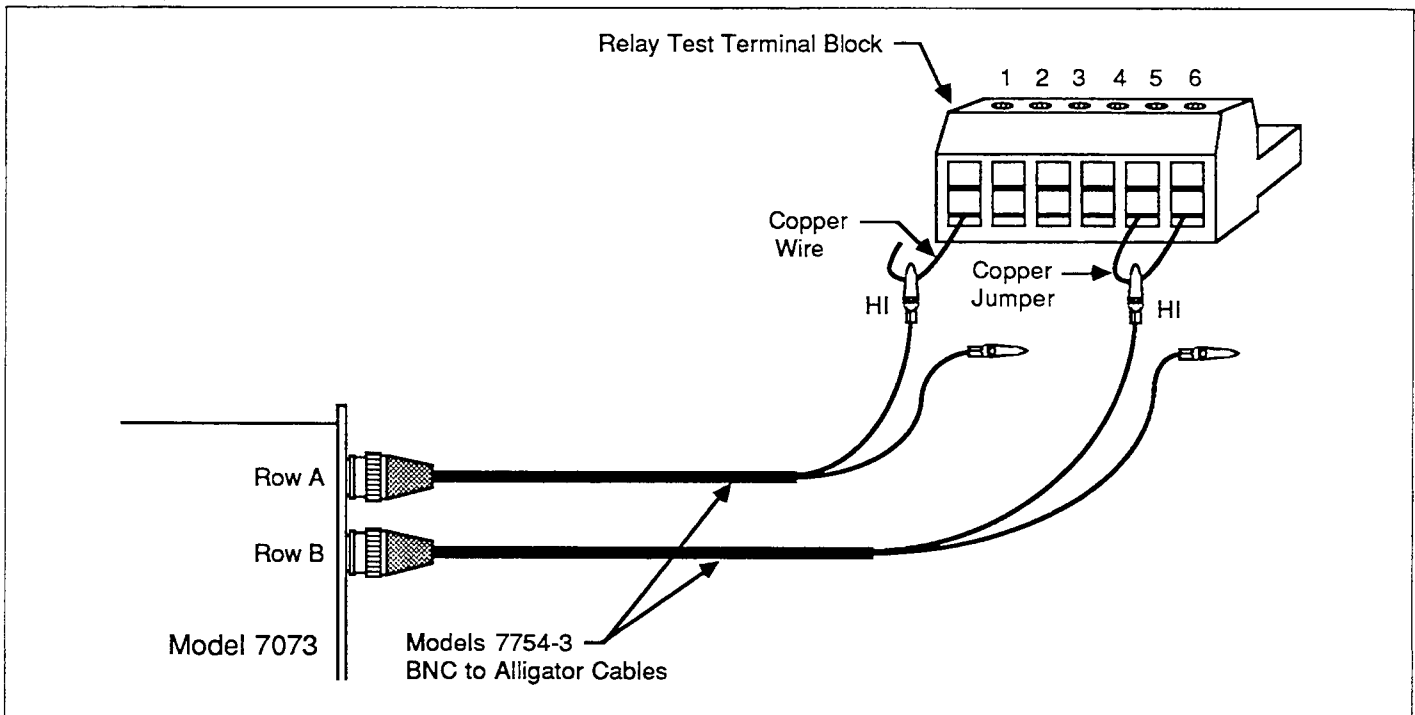

Figure 4-1. Relay Test Setup
2. Connect the relay test terminal block to rows A and B of any Model 7073 card installed in the mainframe as shown in Figure 4-1. Note that terminals 5 and 6 of the relay test terminal block must be shorted together.